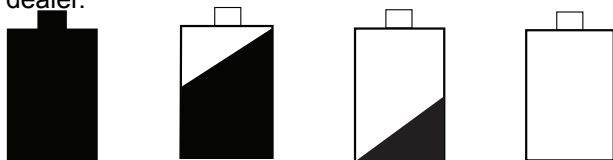

Figure 10.1
- If the battery charge falls below 10 volt it can no longer sustain the appliance operation and the appliance will shut down (**Figure 10.1**). You must disconnect and reconnect the battery to start it up again.